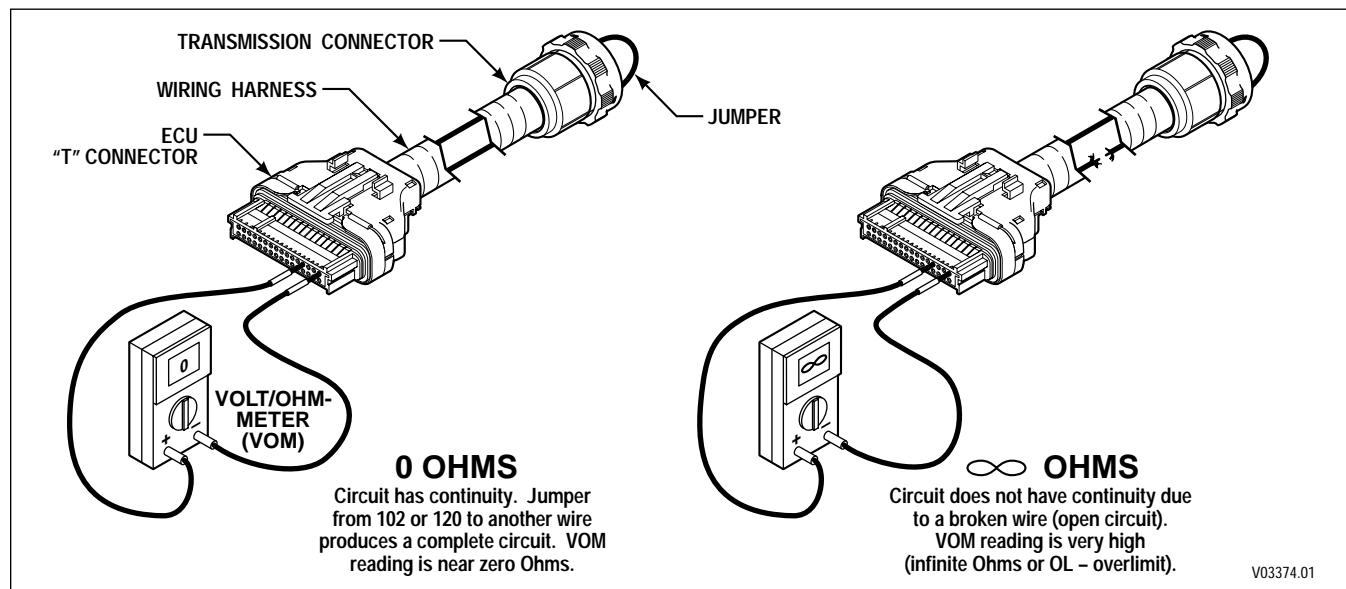

Figure 4-1. Open Circuit
- a. Check continuity of wires 102-T1 and 120-T4 by performing the following (Figure 4-1):
- (1) Disconnect the blue “T” connector from the ECU and disconnect the harness from the transmission main connector. At one end of the harness, using jumper wire kit J 39197 and connector probes in J 39775-CP, connect wire 102-T1 and 120-T4 to each other, being careful not to distort the terminals. Jumping the wires together creates a circuit between wires 102-T1 and 120-T4.